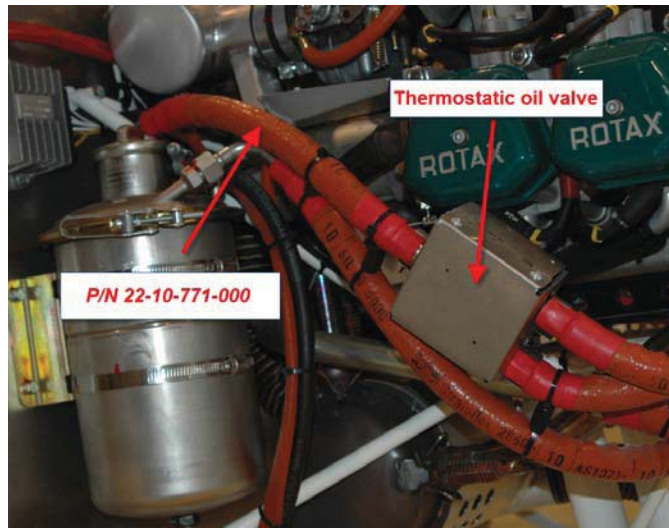

Figure 9 – P/N 22-10-771-000 installation
- 13** Install the “Assy tube from tank to thermostatic oil valve” (22-10-771-000) as indicated in Figure 9.